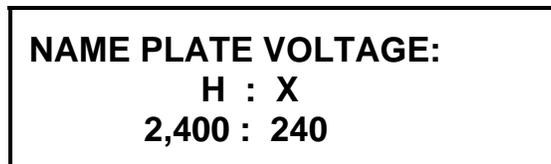

Figure 21.0 Name Plate Voltage Display, X Voltage Keyed In
- b. Origin:** The LCD displays “Start/Stop Test Status Display” after the operator enters the nameplate voltage for X (Figure 21.0) or selects 2 on the “Transformer Name Plate Voltage Menu” (Figure 17.0).